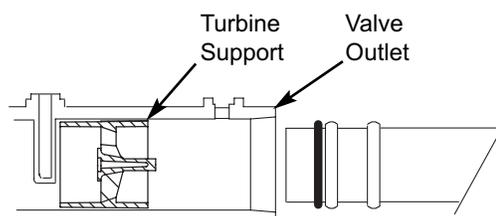

FIG. 10
- Be sure the turbine support is in place in the valve outlet, as shown in Figure 10.